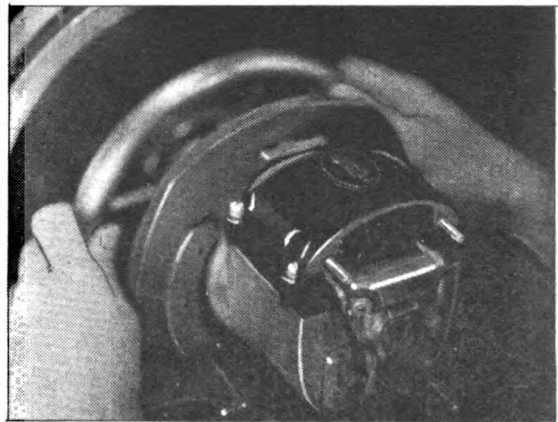

Fig. 54. Checking Impulse on Synchroscope
2. The timing of the magneto must then be checked on the synchroscope. Fig. 54. The impulse should trip the number of degrees at which the arrow on stop pin plate indicates. This is located back of the impulse. Fig. 55.